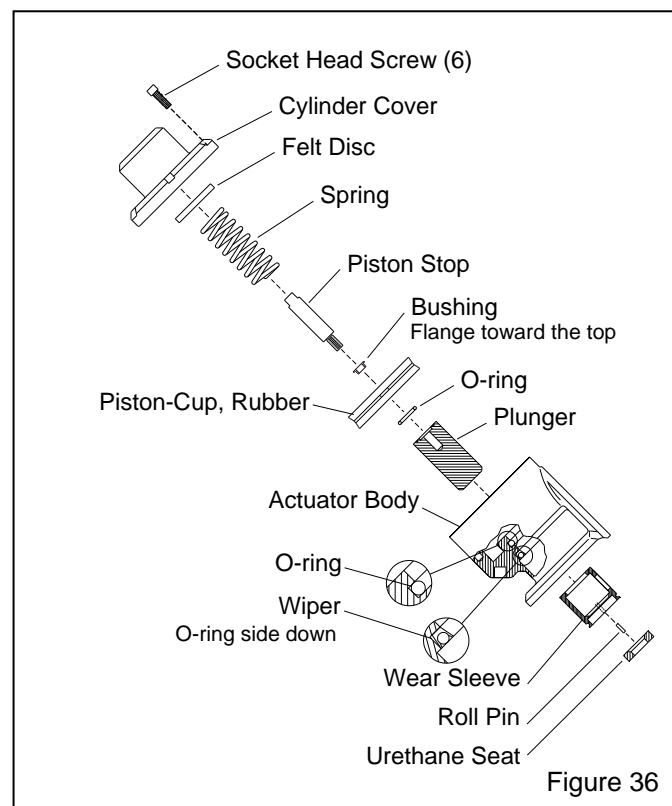

Figure 36
7.7.4 Refer to Figure 36 and unscrew the six socket head screws, and then remove the cylinder cover, spring and felt disc. Spring compression is removed when the cover is approximately 9/16" from the actuator body.
7.7.11 Replace the wiper and O-ring in the actuator body, the O-ring side of the wiper must face toward the bottom of the body, as shown in Figure 36.